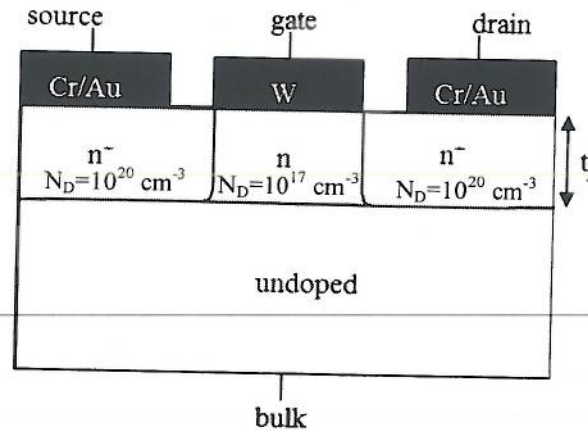

Figure 3.1: Material cross section of a GaAs MESFET.
3. Figure 3.1 gives the material cross section of a GaAs MESFET. The GaAs surfaces are passivated and thus do not have interface states. The gate length is $1\ \mu\text{m}$ and the width is $5\ \mu\text{m}$.